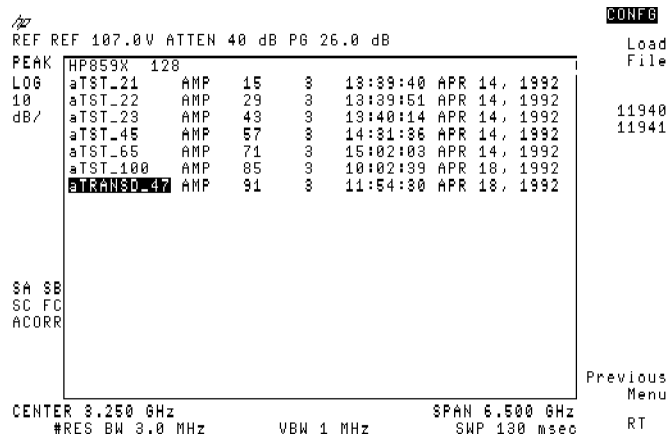

Figure 3-90. Saving Transducer Factors in Register 47
- Press 47, **ENTER** (same as the **Hz** key in the analyzer's lower-right corner) to save the transducer factors in register 47. Notice that the prefix on the card will be **TRANSD**. To change the file's prefix, refer to "Changing a File's Prefix" later in this section. The transducer factors will be saved on the memory card as **aTRANSD_47**. See Figure 3-90.